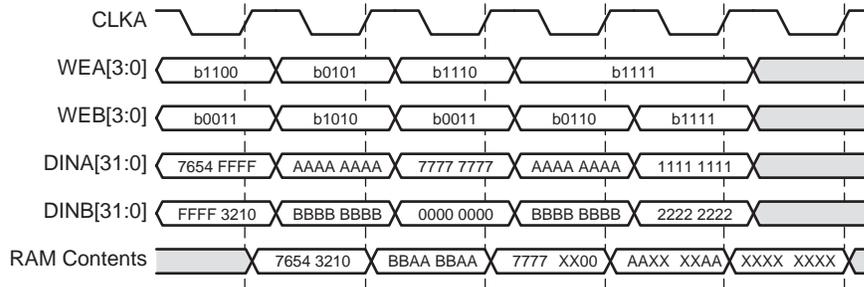

Figure 15: Write-write Collision Example
- Using Byte-Writes.** When using byte-writes, memory contents are not corrupted when separate bytes are written in the same data word. RAM contents are corrupted only when both ports attempt to write the same byte. Figure 15 illustrates this case. Assume ADDR_A = ADDR_B = 0.